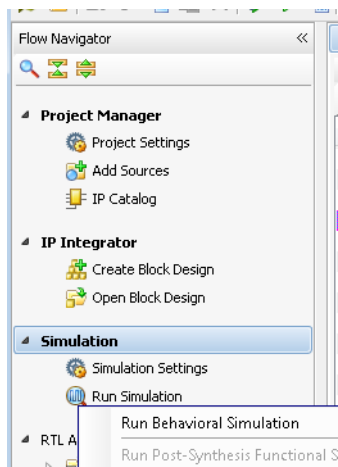

Figure 9-27: Execute Simulation
10. Click **Run Simulation** in the Flow Navigator (Figure 9-27) and select **Run Behavioral Simulation**.